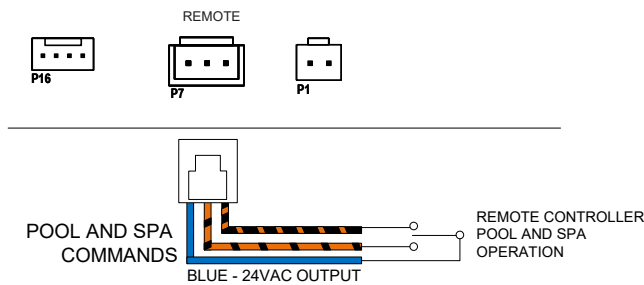

Figure 58. 3-Wire Remote Harness Installation
5. On the 3-wire remote interface harness, connect the BLUE wire to one side of the remote automation controller and connect the ORANGE/BLACK wire for "SPA" operation and the BLACK/ORANGE wire for the "POOL" operation. See Figure 58.
6. Install the 3-wire remote interface harness to the "P7" connector and turn power ON to the heater. See Figure 58.
10. For 3-wire control, connect the BLUE wire to one side of the remote controller and connect the ORANGE/BLACK wire for "SPA" operation and the BLACK/ORANGE wire for the "POOL" operation. See Figure 58.